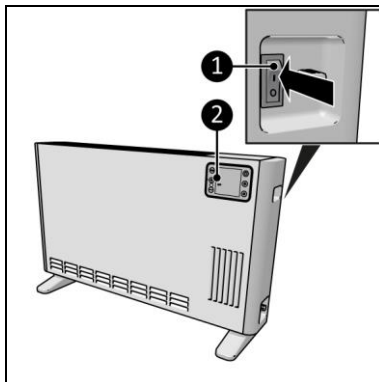

Figure 12
1. Set the ON/OFF switch to the ON position (Figure 12, pos. 1).
2. The display (Figure 12, pos. 2) will show OFF.